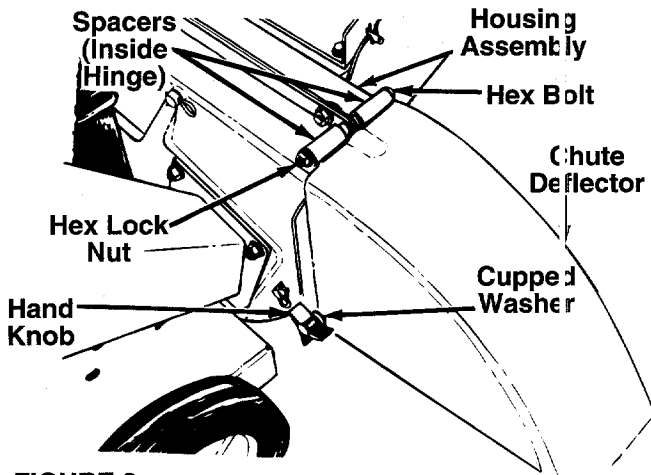

FIGURE 2.
- Place the chute deflector in position on the discharge opening. Insert hex bolt and spacer through hinge on chute deflector and housing (spacer fits inside of hinge). See figure 2.